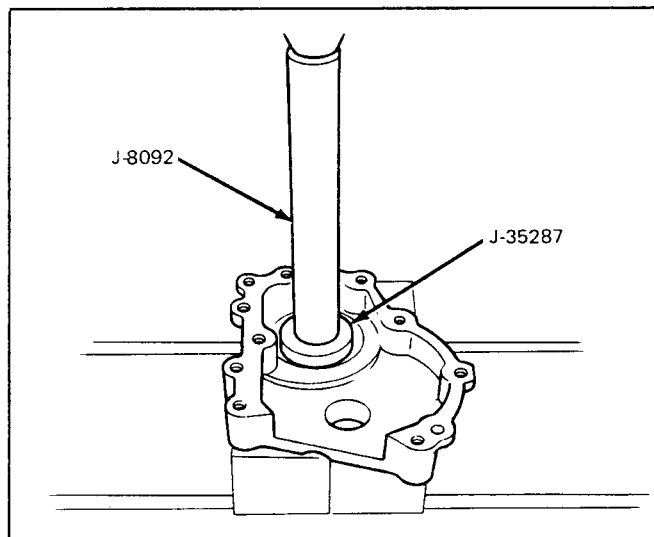

Figure 7A-104 Bearing Housing Race Installation
45. Install the front clutch assembly in the transaxle case as shown in Figure 7A-130.